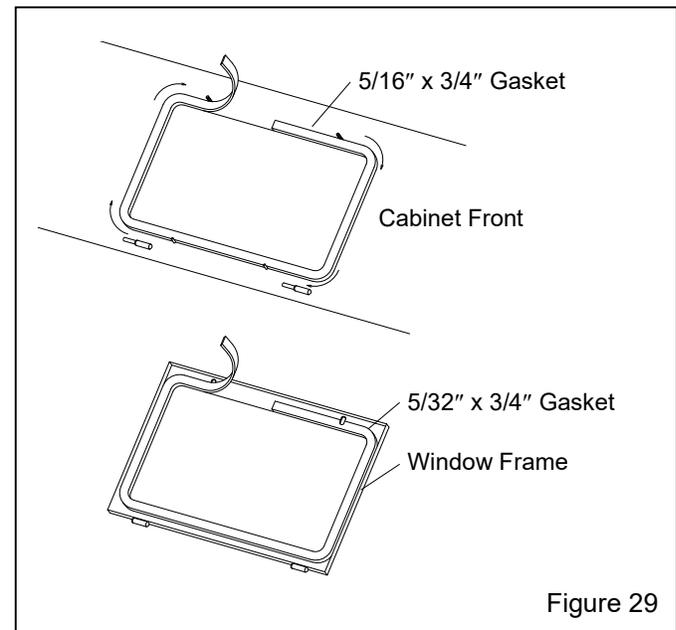

Figure 29
### 7.5 Window-Gasket Replacement – Figure 29
**7.5.4** Peel a short section of adhesive backing from the 5/16"-thick strip gasket and adhere the gasket to the center of the top edge of the window opening, as shown in Figure 29. Peel additional backing as needed and work the strip around the radius of each corner, pressing it firmly to bond. Trim the gasket to fit and compress the ends to seal.